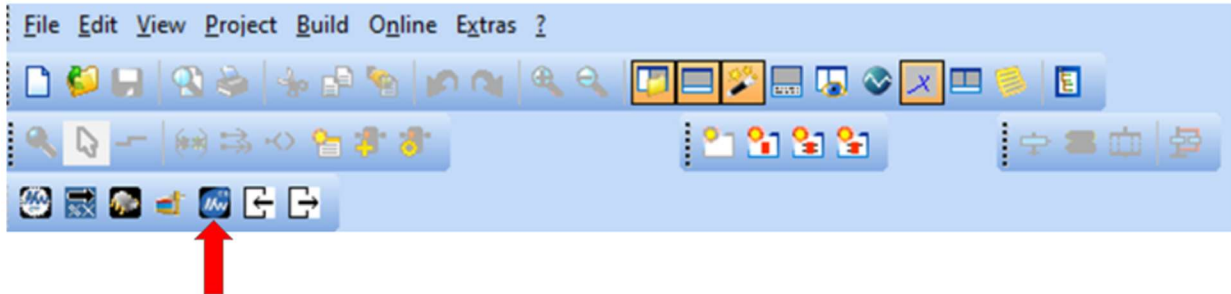

Figure 6: Yaskawa Editor Button
- Once successfully connected to the motors, make your way to the Yaskawa CamEditor as shown in Figure 6 and click the 'Test Move Setup' Button.